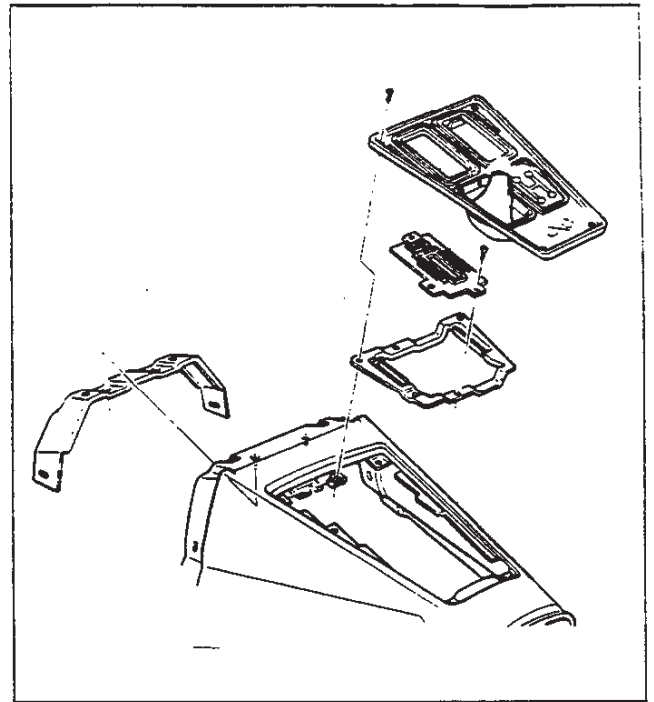

Fig. 8—Front Console Assembly
- b. Remove lid hinge screws (total of nine, three (3) per lid).
- c. Remove eight (8) screws on periphery of compartment lid trim plate.
3. Remove bolt at rear portion of console. Access bolt through opening created in step 2. Remove four (4) screws (two (2) per side) on side of rear portion of console.
6. Having first disassembled heater and side vent controls, shift knob assembly, boot assembly, and trim plate, remove front console assembly by carefully pulling rearward and upward (fig. 8).